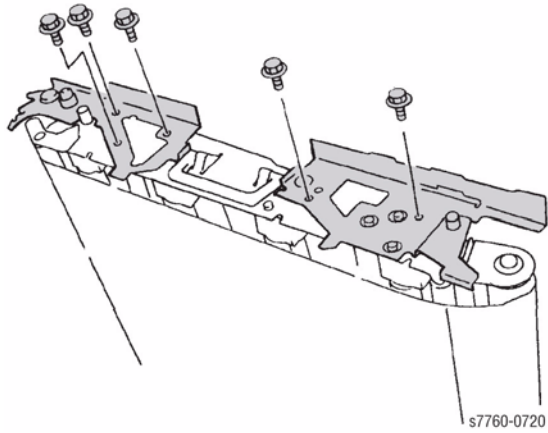

Figure 7 Removing Brackets
10. Remove the 2 screws and remove the Brackets (Figure 7).